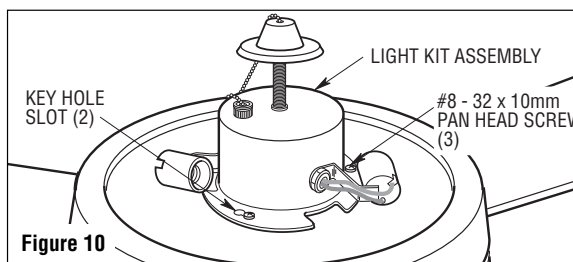

Figure 10
13. Position the light kit assembly onto the lower housing, aligning each of the three holes. Rotate the light kit assembly to engage the two loosened screws in the two key hole slots. Replace the #8 - 32 x 10mm pan head screw (removed previously) and tighten all three screws to secure the light kit assembly to the lower housing. (Figure 10).